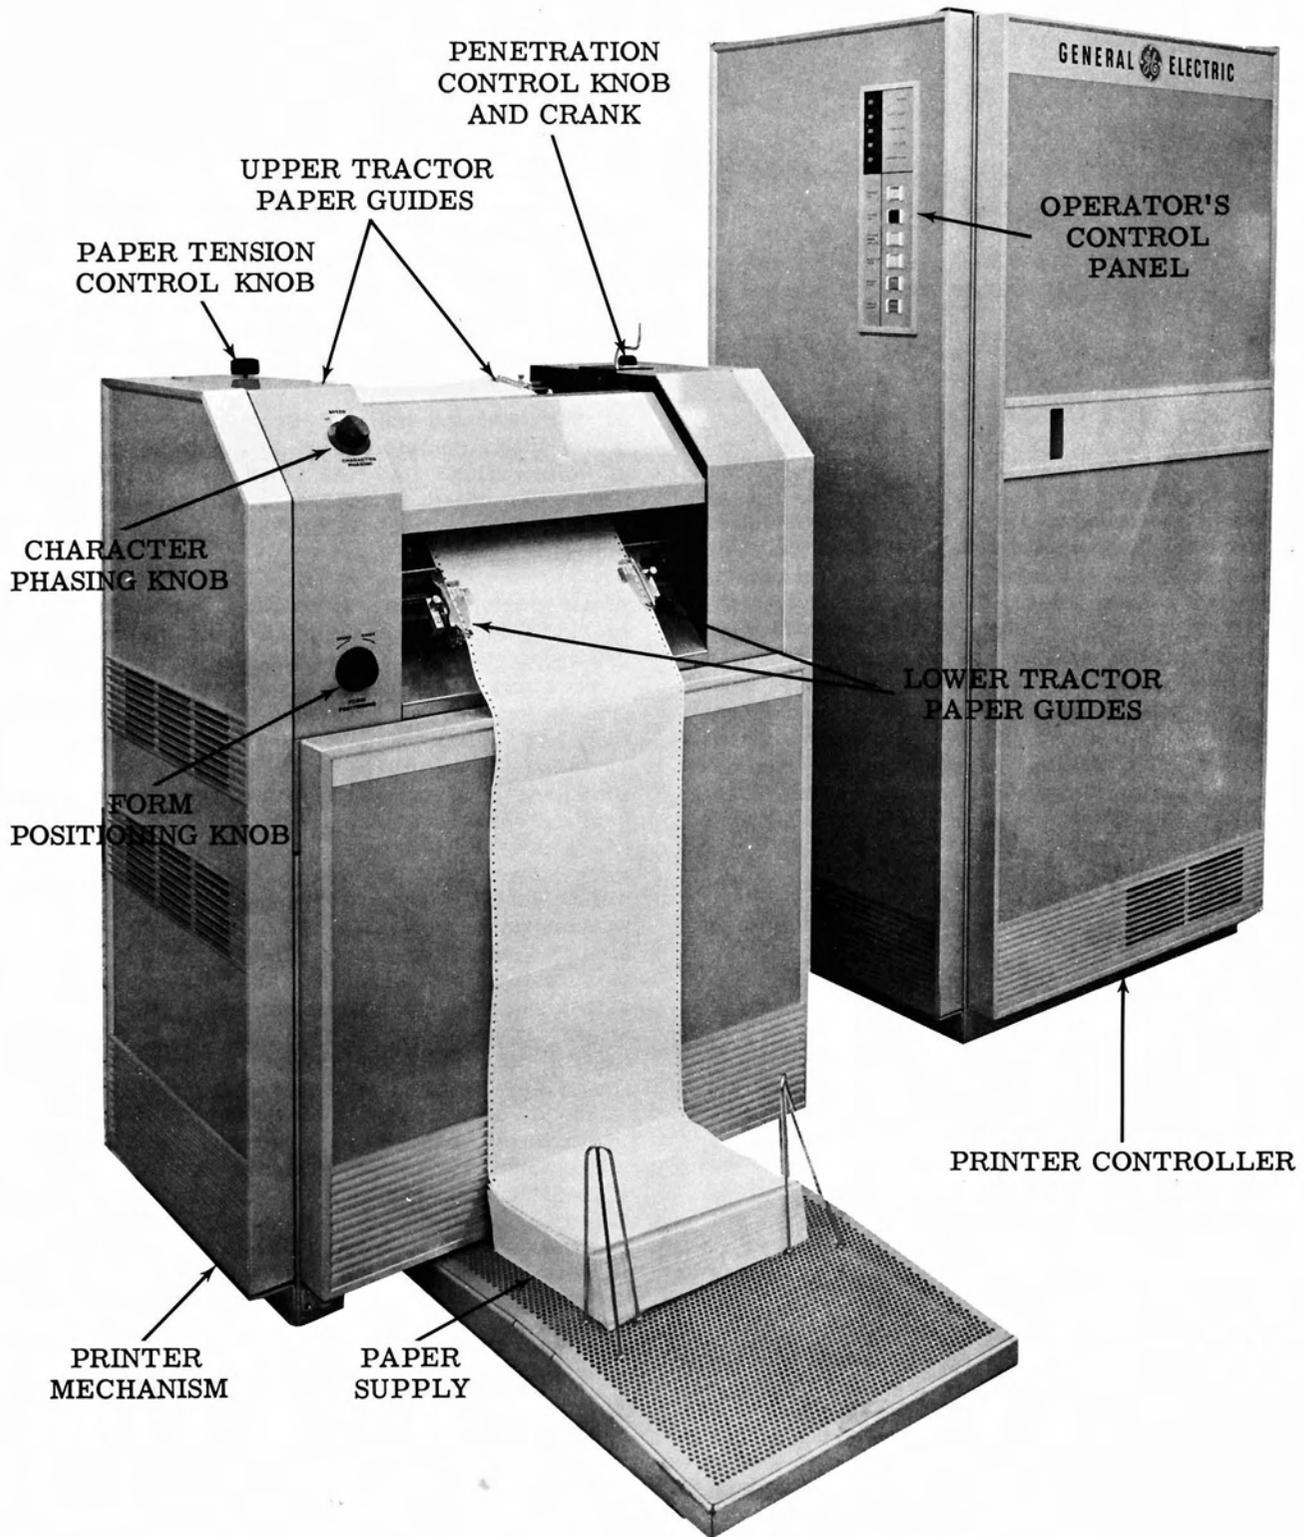

Figure X-1. High-Speed Printer Subsystem
The high-speed printer subsystem (Figure X-1) consists of a printer mechanism and a printer controller which operates through the controller selector. The main function of the printer is to print out the results of computer computations. It does this at the rate of 900 lines per minute single spaced and 675 lines per minute double spaced. The printer operates mainly under computer control, but, as will be described later, there are a few operations which can be performed manually at the operator control panel on the printer controller. Since the output from the central processor is buffered through the controller, the high-speed printer can print simultaneously with other functions of the computer.
5. Load paper in the printer as follows: (Refer to Figures X-1, X-3, and X-5. Unless specified otherwise, controls referred to are on the printer.)